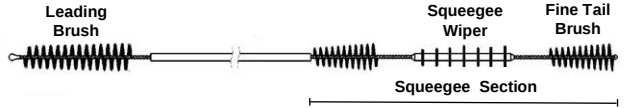
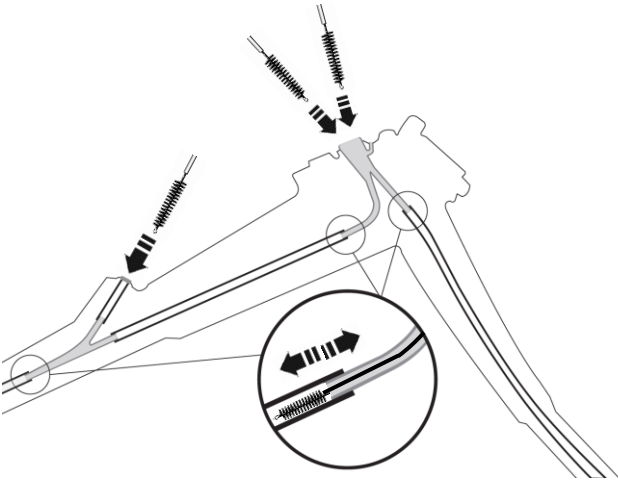
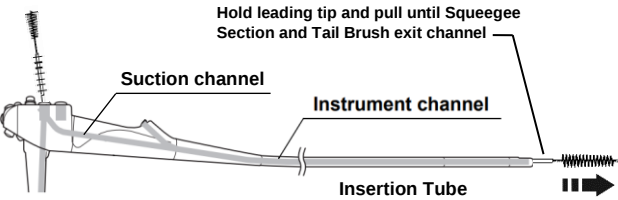
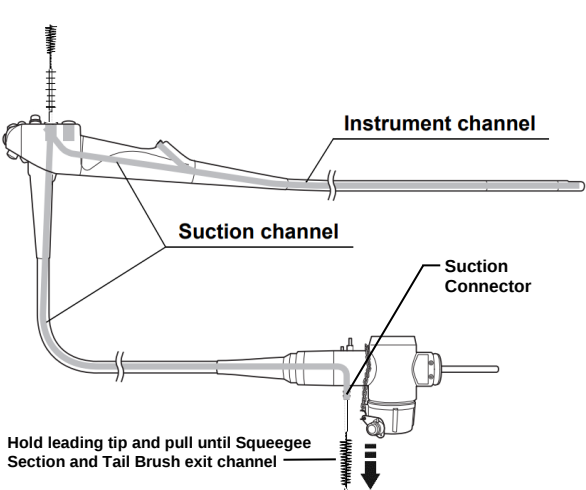

Figure 1A SuperDART® with Squeegee Cleaning Device
Figure 9 Cleaning the connections between metal port and channel
Figure 10 Cleaning Suction and Instrument Channel
Figure 11 Cleaning Suction Channel
USE – SuperDART® Cleaning Device (Figure 1A)
Advance the Leading Brush (with the protective bullet, see Figure 1A & 8) through the opening in the Suction Cylinder until you feel less resistance, approximately 8cm. Move the brush back and forth 2-3 times to clean the connection of the Suction Cylinder Port to the Teflon channel tube (see Figure 9). Next, proceed with pushing the device through the Instrument Channel until the Leading Brush appears at the end of the Insertion Tube. Use short strokes as not to kink the device catheter. Hold the distal end of the device and pull it through until the Squeegee Section of the device clears the channel exit (see Figure 10). This device has been validated for cleaning the channel effectively with only ONE PASS™ through. With the device still submerged in the detergent solution, inspect and scrub off all debris present on all Bristles and Squeegee Wiper before proceeding to clean the next channel or accessories.
Advance the Leading Brush through the opening in the Suction Cylinder until you feel less resistance, approximately 8cm. Move the brush back and forth 2-3 times to clean the connection of the Suction Cylinder Port to the Teflon channel tube (see Figure 9). Next, proceed with pushing the device through the Suction Channel until the Leading Brush appears from the Endoscope Suction Connector. Use short strokes as not to kink the device catheter. Hold the distal end of the device and pull it through until the Squeegee Section of the device clears the channel exit (see Figure 11). This device has been validated for cleaning the channel effectively with only ONE PASS™ through. With the device still submerged in the detergent solution, inspect and scrub off all debris present on all Bristles and Squeegee Wiper before proceeding to clean the accessories.
(3) Brush the connection of the Instrument Channel Port to the Teflon channel tube. Advance the Leading Brush straight through the opening in the Instrument Channel Port, by approximately 8cm. Move the brush back and forth 2-3 times to clean the connection of the Instrument Channel Port to the Teflon channel tube, see Figure 9. Pull back out the Leading Brush. With the brush submerged in the detergent solution, inspect and scrub off all debris present on all Bristles before proceeding to clean the next channel or accessories.
(4) Use the Leading Brush to clean the Biopsy Valve, Suction Valve and Air/Water Valve according to endoscope manufacturer's instructions.